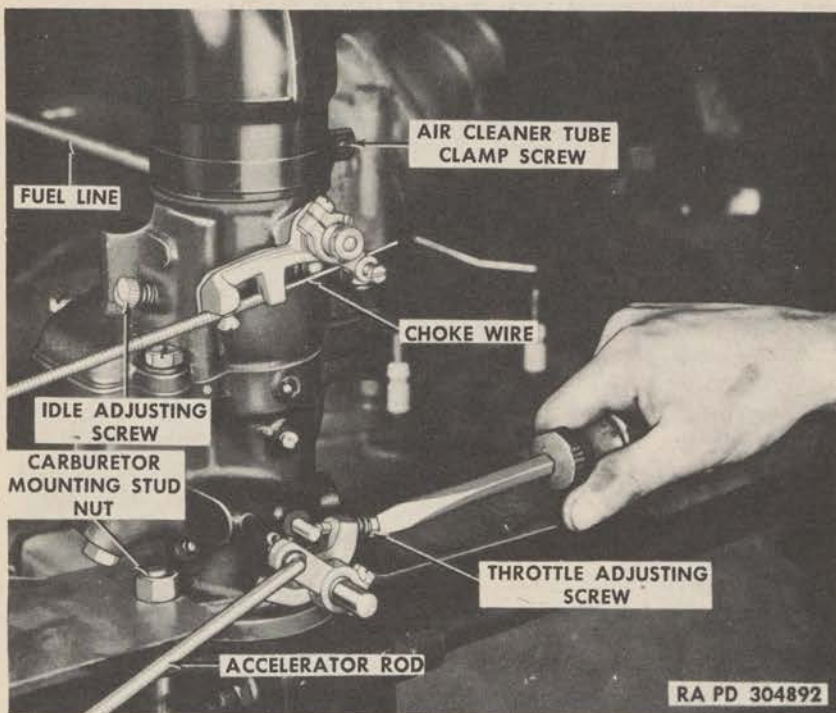

Figure 64—Throttle Adjustment
achieved as indicated by the tachometer on the dash (fig. 64). The idling speed should be between 400 and 500 rpm.
(4) **IDLING ADJUSTMENT.** After the engine is warm, the idling adjusting screw should be turned until the engine runs smoothly (fig. 64). Turn the screw clockwise to richen the mixture, and counterclockwise to lean it. It is best to turn the adjusting screw in until the engine starts to run lumpy, and then back it off and count the number of turns to cause the engine to miss again. Then run the screw in for half that many turns to secure the proper adjustment. Adjusting the idling speed in no way affects carburetor performance at higher engine speed.